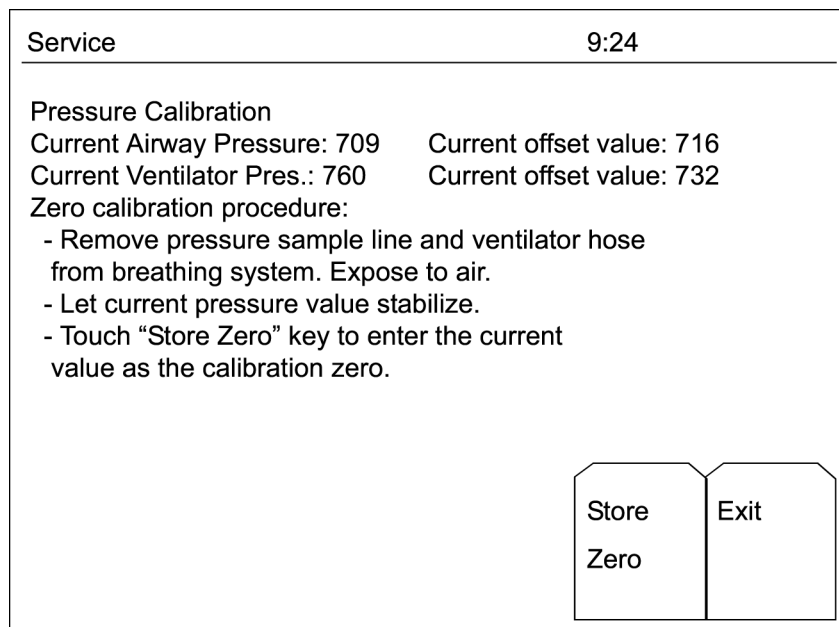

Figure 7 Pressure Calibration Screen
3. Scroll to Calibration and select Pressure to bring up the pressure calibration screen. See Figure 7.